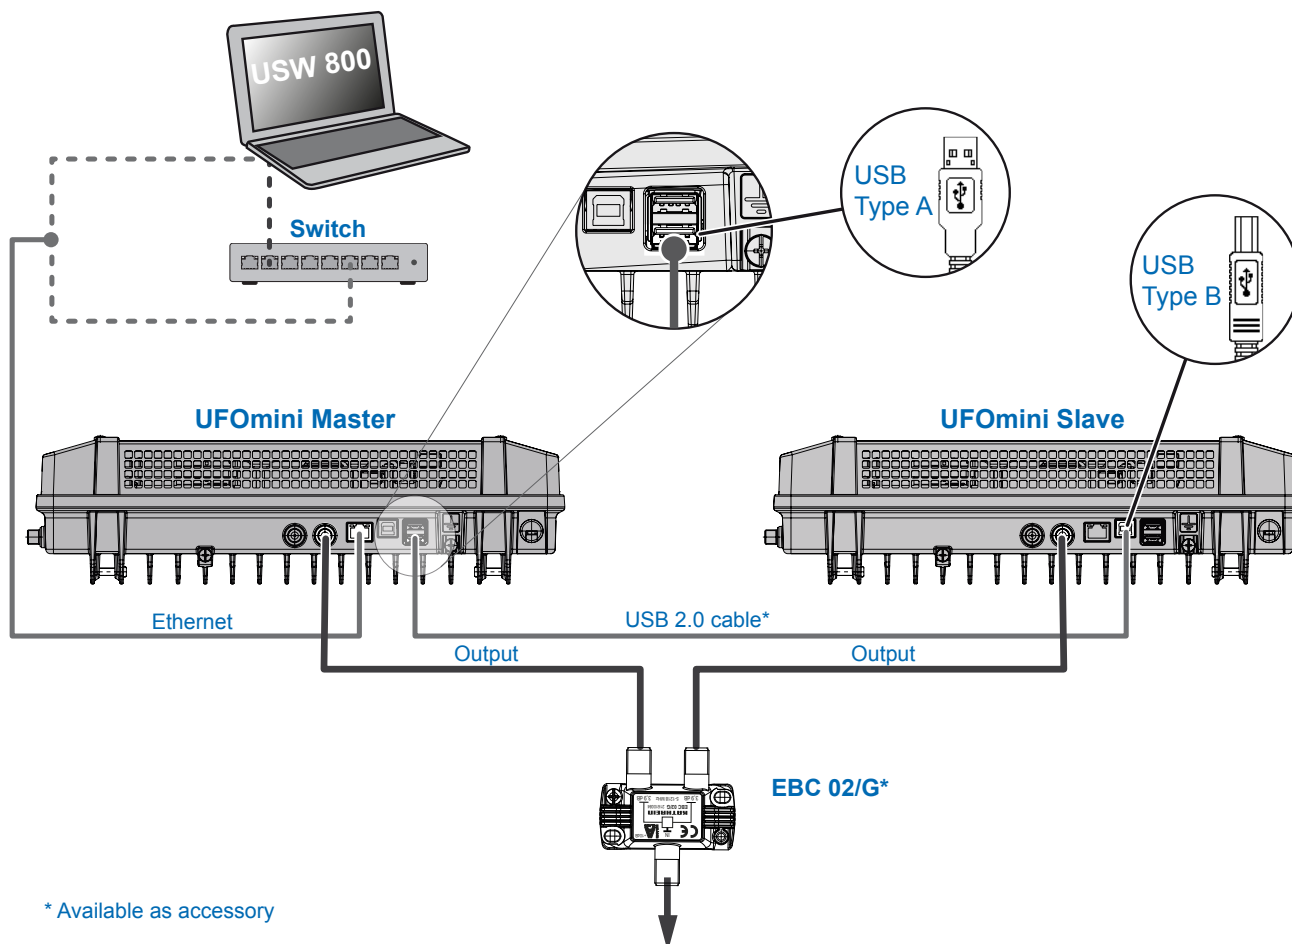

Fig. 4: Cabling
2. Connect an Ethernet cable1) to the RJ45 socket on the computer, if required, by means of a switch or router; see Fig. 4, P. 5. The head-end will now function as the *master*.
3. If UFOmini devices are connected to a system via UFOlink, please cascade each additional device with a USB 2.0 cable according to the following specifications (Fig. 4). In this case: